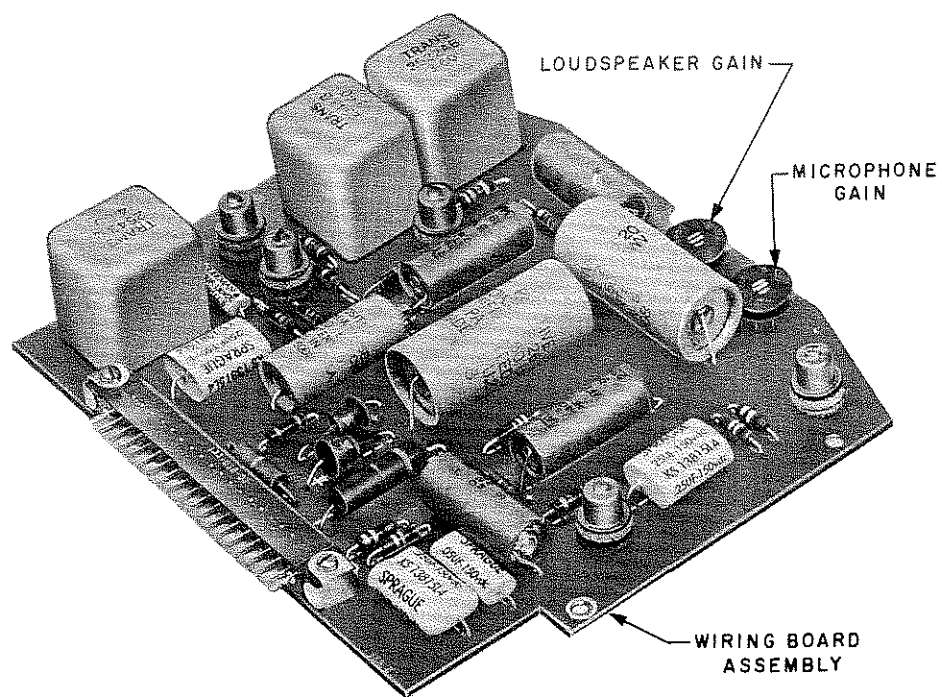

Fig. 12 — Amplifier Gain Controls
7.02 Turn microphone and loudspeaker amplifier gain controls to their maximum counterclockwise (minimum gain) position (see Fig. 12).